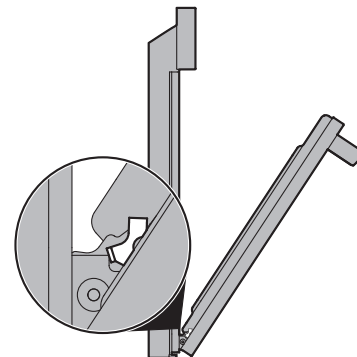

Figure 19: Removal position
2. Hold the oven door at the same angle as the removal position (Figure 19) Carefully insert the hinge levers into the oven frame until you feel the hinge levers are seated into the hinge notches. The hinge arms must be fully seated into the hinge notches before the oven door can be fully opened.